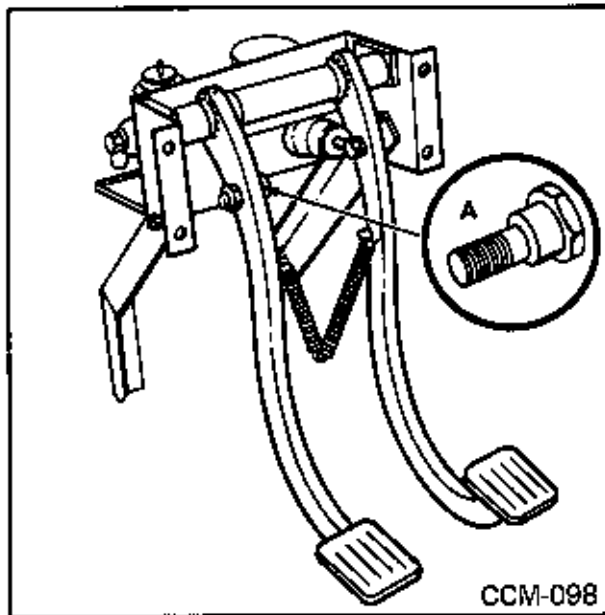

Fig. 93 Clutch Pedal
1. If necessary, adjust bolt ("A", Fig. 93) so that clutch pedal free play does not exceed 1/4" at pedal pad. Check pedal free play by hand.